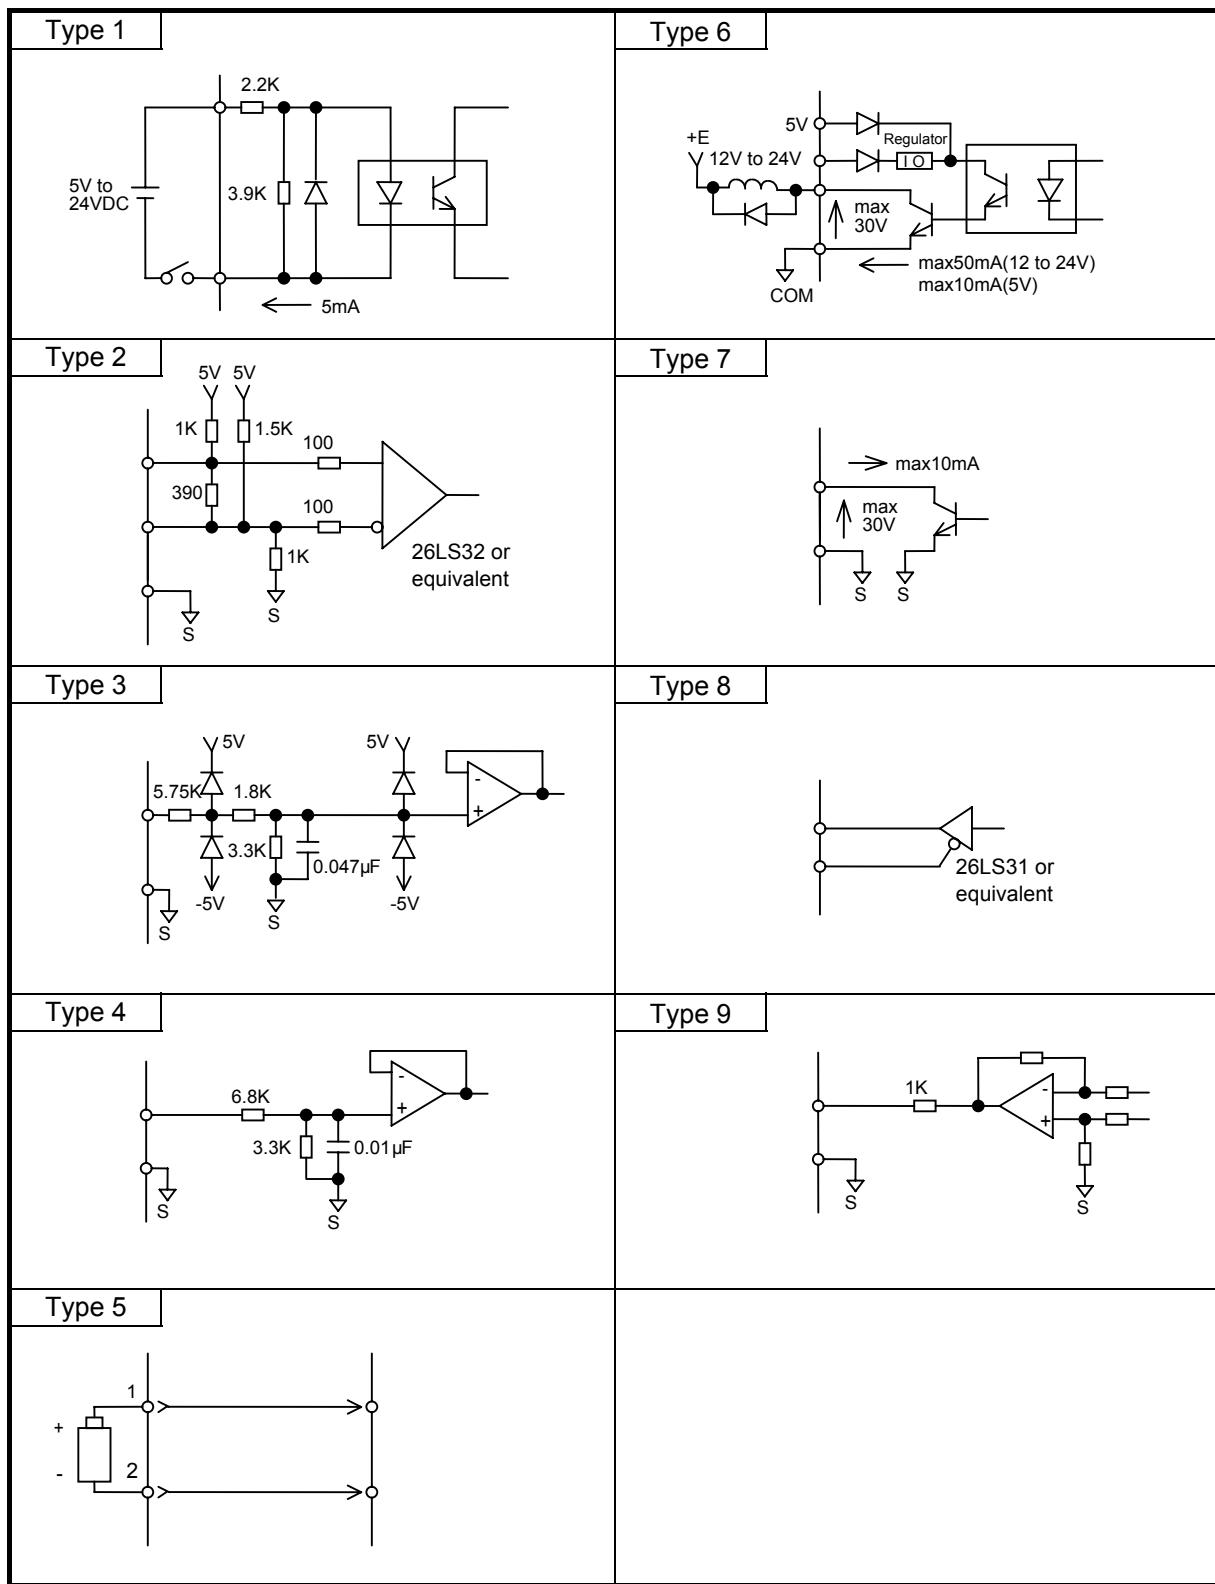

Fig. 9-16
This section explains the general specifications of CN1 input/output signals of the position control type. Fig. 9-16 shows the circuit types of CN1 input/output signals and Tables 9-4 and 9-5 describe the general specifications.
*2 For the circuit type, see Fig. 9-16.